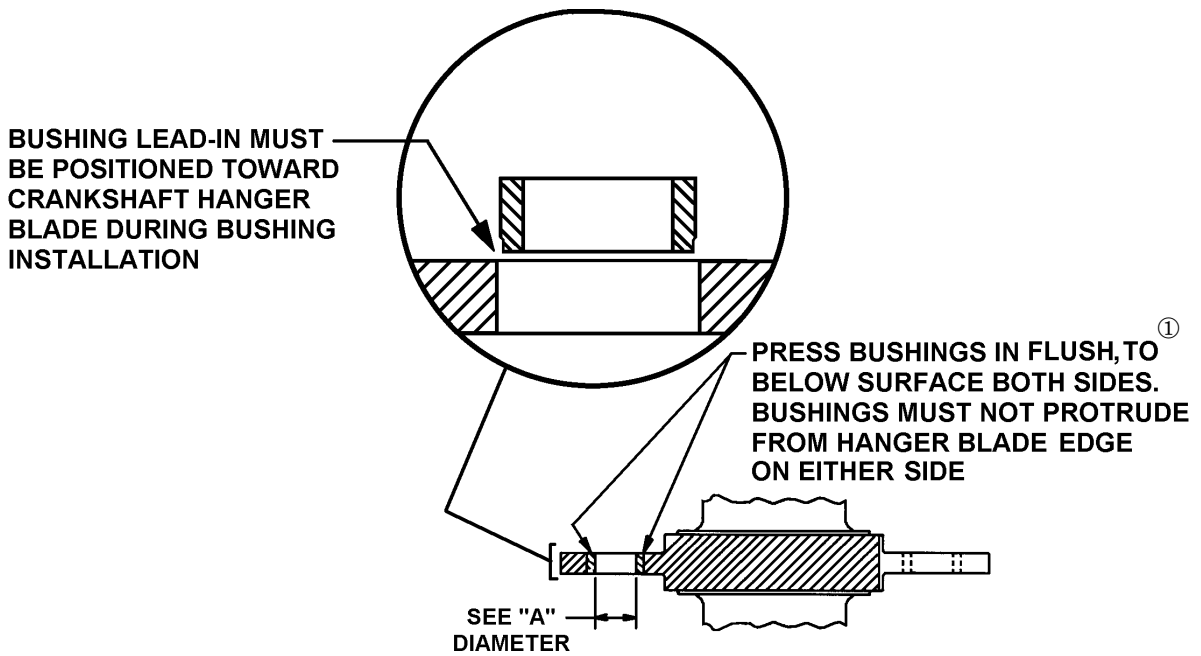

FIGURE 6. CRANKSHAFT HANGER BLADE BUSHING INSTALLATION
- 3. The crankshaft counterweight hanger blade bushings must be replaced using the specified tools and following procedure. Refer to Figure 6 for specifications regarding crankshaft hanger blade bushing removal and replacement.
- c) Refer to Figure 6 for specifications regarding crankshaft hanger blade bushing removal and replacement. The new bushings must be installed into the same positions as the original bushings. Replacement crankshaft blade bushings are available in standard and some oversize dimensions. Refer to note ③ Table 3.